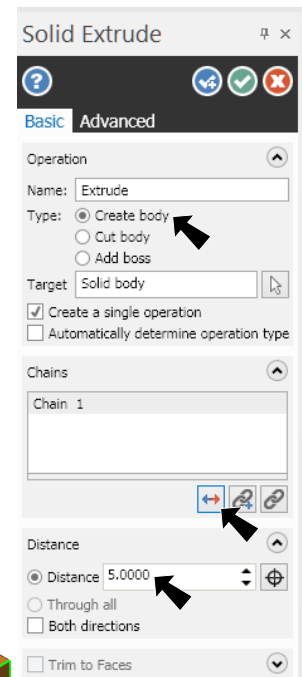

Fig. 21
Step 13. In Solid Extrude dialog box, **Fig. 21**
Reverse All , **Fig. 21**.